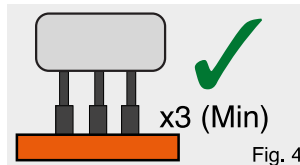

Fig. 4
- Ensure all support rod are assembled with their nuts and washers, and all are properly tightened. Always use 3 support rods. (Fig. 4)